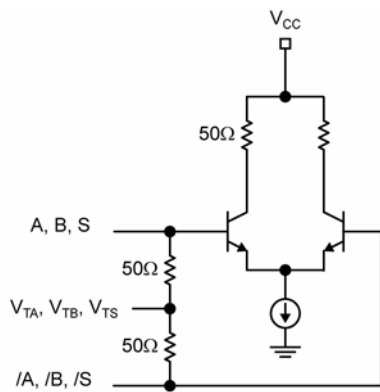

Figure 1a. Simplified Differential Input Stage
6. Due to the internal termination (see Figure 1a) the input current depends on the applied voltages at A, /A and  $V_{TA}$  inputs, the B, /B and  $V_{TB}$  inputs or the S, /S and  $V_{TS}$  inputs. Do not apply a combination of voltages that causes the input current to exceed the maximum limit.